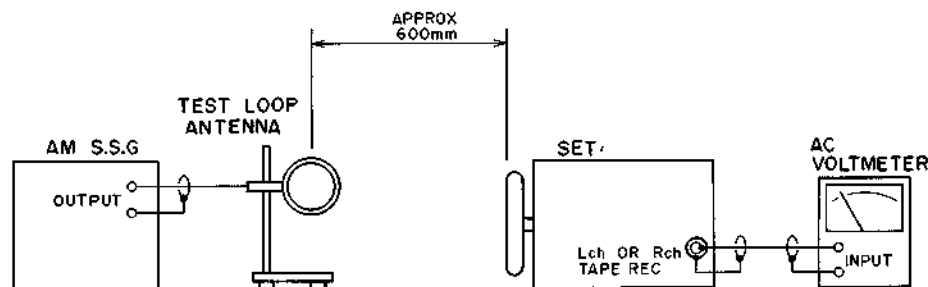

Fig. 5-2 Instrument Connections for AM (MW, LW) Section Adjustment
5-5. AM (MW) ADJUSTMENT((Refer to Fig. 5-2 and 5-3)
5-6. LW ADJUSTMENT (for AT-A301L) (Refer to Fig. 5-2 and 5-3)